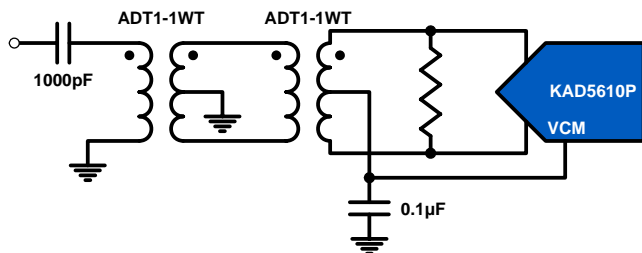

FIGURE 27. TRANSFORMER INPUT FOR GENERAL PURPOSE APPLICATIONS
Best performance is obtained when the analog inputs are driven differentially. The common-mode output voltage, VCM, should be used to properly bias the inputs as shown in Figures 27 through 29.
An RF transformer will give the best noise and distortion performance for wideband and/or high intermediate frequency (IF) inputs. Two different transformer input schemes are shown in Figures 27 and 28.